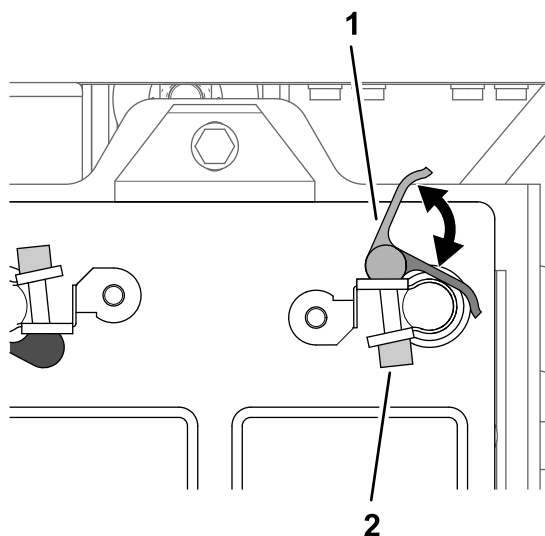

Figure 240
2. Open the latch handle of the quick-connect clamp with the black handle (Figure 240).
4. Close the latch handle of the quick-connect clamp (Figure 240).